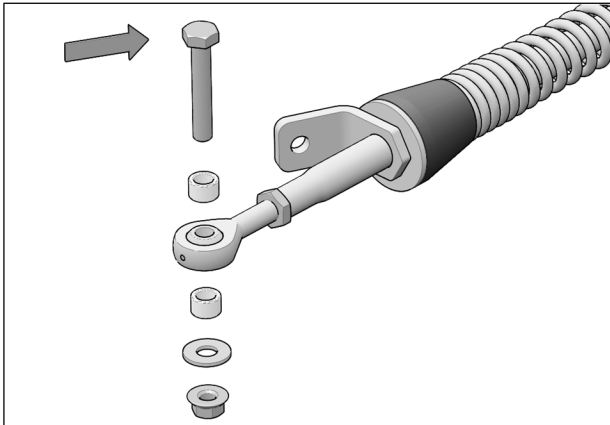

Fig. 13
3. Remove bolts, nuts, washers and bushings from front stabilizing rod ends as shown in Fig. 13